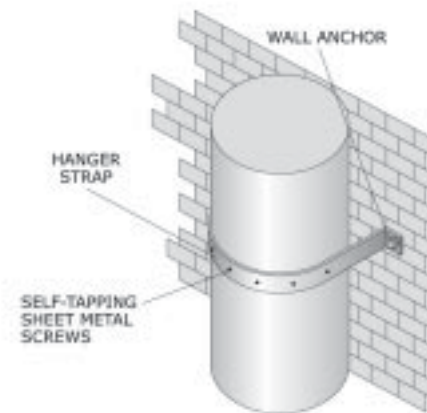

Figure 53: Strap connected directly to wall.
-  **Straps in Figure 53 (above) do not provide vertical bracing.**